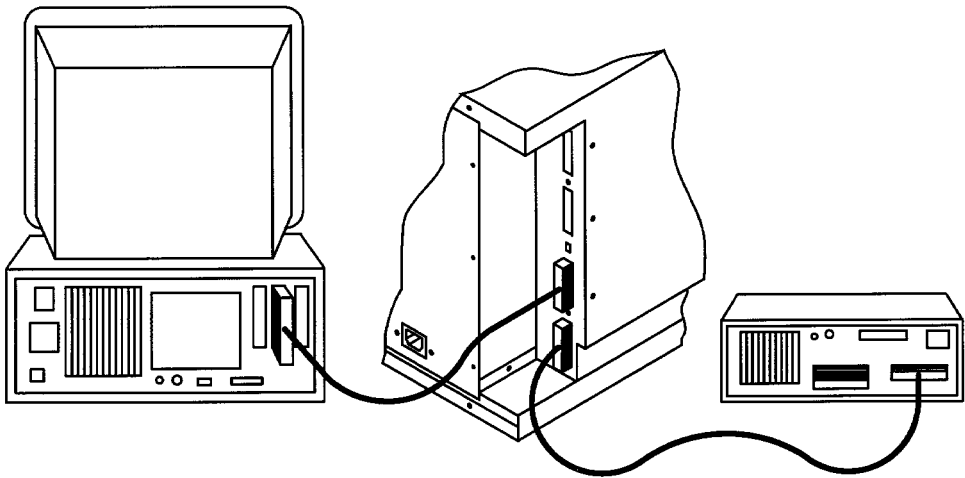

Figure 3-4. Connecting the Library with Other Peripherals
3. Plug one end of the SCSI cable into one of the SCSI ports on the library rear panel (see Figure 3-4). Make sure that you select the set of SCSI connectors that matches your interface switch setting selected in Step 2.
4. Plug the other end of the SCSI cable into the SCSI port of another peripheral device (see Figure 3-4).